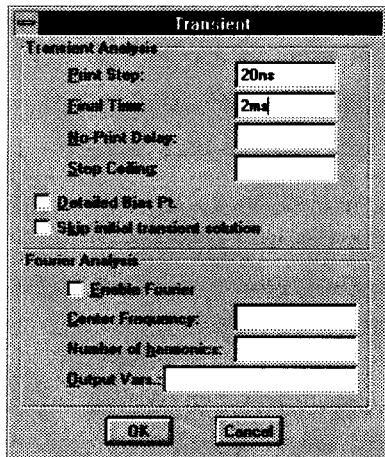

Figure 2-13 Transient Analysis Dialog Box
- 3 Set up the Transient dialog box as shown in Figure 2-13.